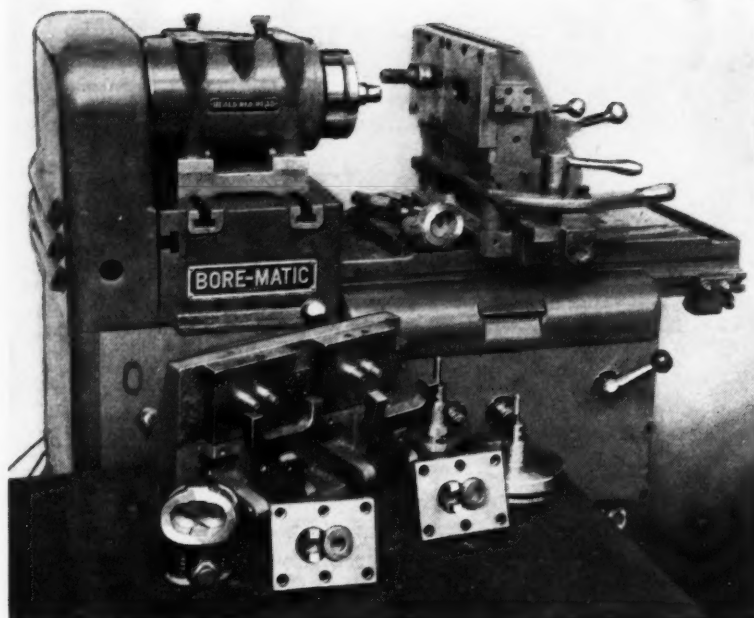
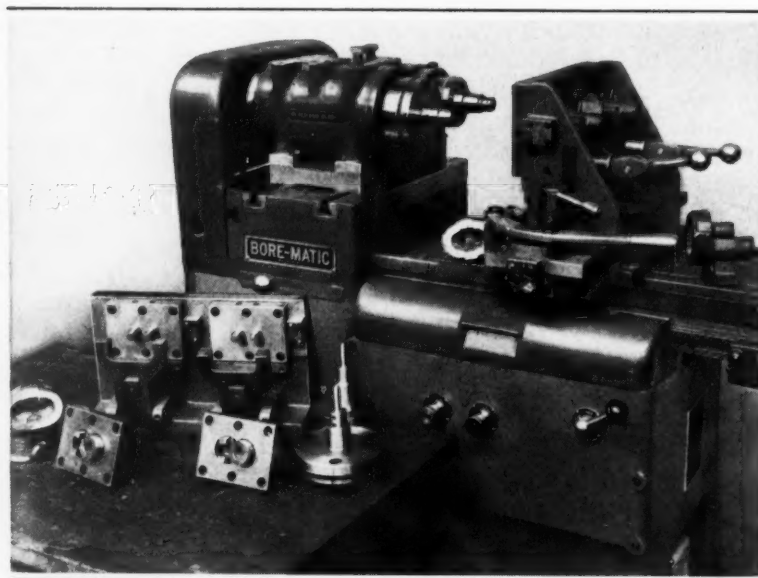

Fig. 1. Fixtures and Boring Spindles Used in Machining Gear-pump Bodies on a Heald Bore-Matic
Fig. 2. View of Bore-Matic Showing Rear of Work-holding Fixture
BOTH single and double type gear-pump bodies used in a well-known oil burner are being bored, faced, and chamfered accurately and rapidly on a Heald No. 48 Bore-Matic equipped as shown in Figs. 1 and 2. The fixture consists of a rigid casting, mounted on the cross-slide attached to the main table. The fixture can be indexed crosswise to two different positions by means of a hand-lever to provide for boring both sides of the rotor chamber, and is securely locked by another lever.
* Various adapter plates used in conjunction with locating studs or a hand plug, such as shown in the fixture plate to the left in Fig. 1, are employed to locate the work. The single pump body is located by a hand plug, and the double body is positioned by studs in the fixture plate. After the work has been located on the adapter plates, it is locked in place by means of a clamp actuated by the hand-levers shown in Fig. 2 at the rear of the fixture.